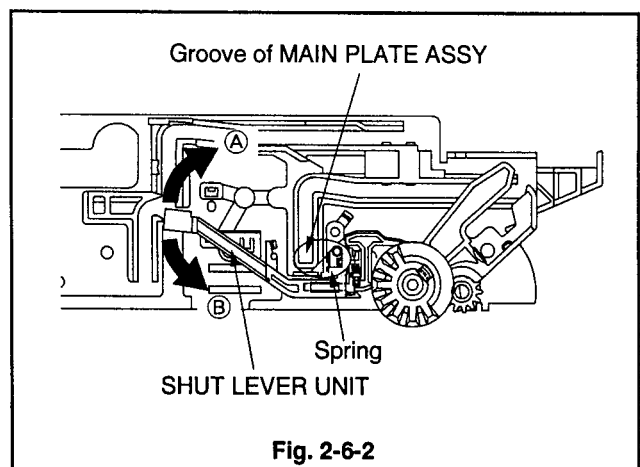

Fig. 2-6-2
4. Insert the spring of the SHUT LEVER UNIT under Groove of the MAIN PLATE ASSY shown in Fig. 2-6-2.